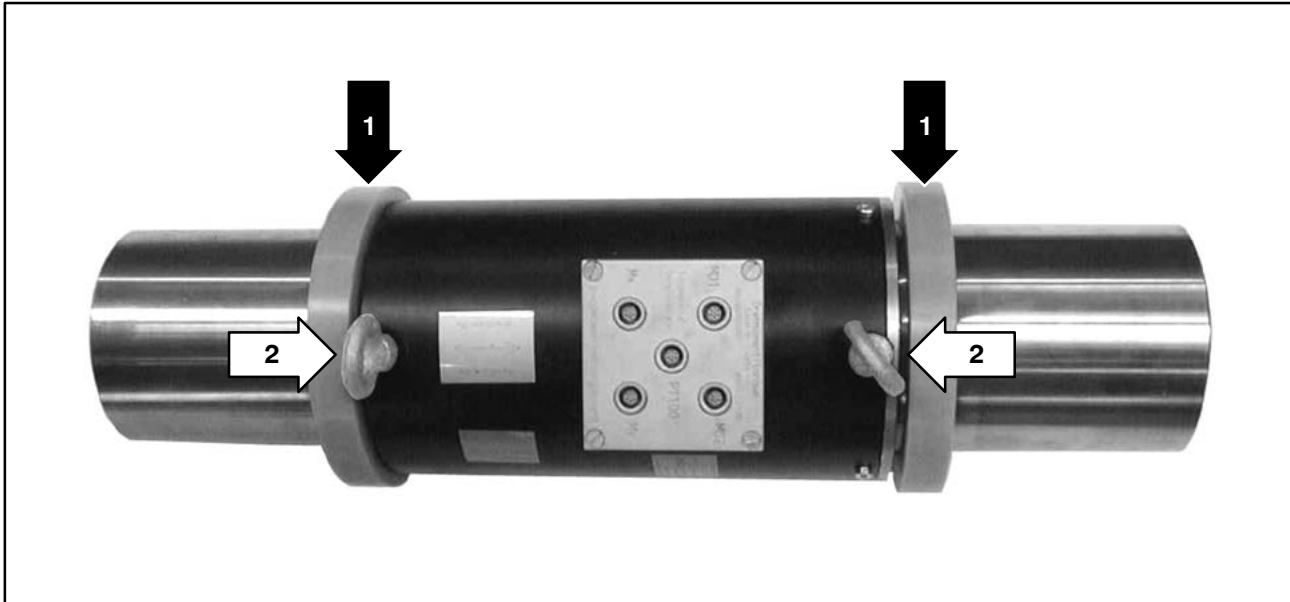

Fig. 4.2: Protective rings (1) and transport lugs (2), viewed from above
- **For nominal torques of 10 kN·m and 20 kN·m only:** Remove the protective plastic rings, see Fig. 4.2.
- **For nominal torques of 10 kN·m and 20 kN·m only:** Remove the transport lugs, see Fig. 4.2.